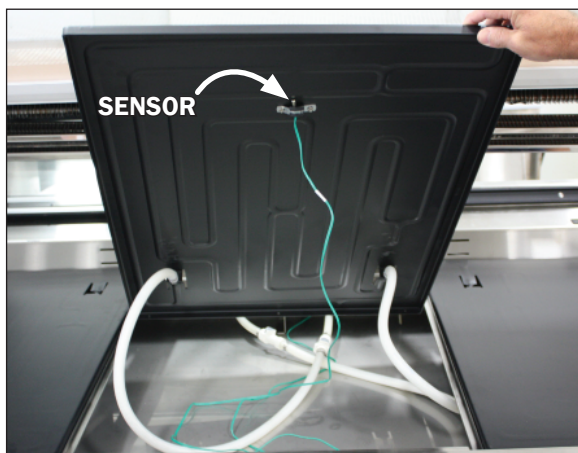

Fig. 4 Coolgenix pan sensor
1. The center deck pan and shelving (if applicable) have a pan sensor connected to the underside (Fig. 4). Not